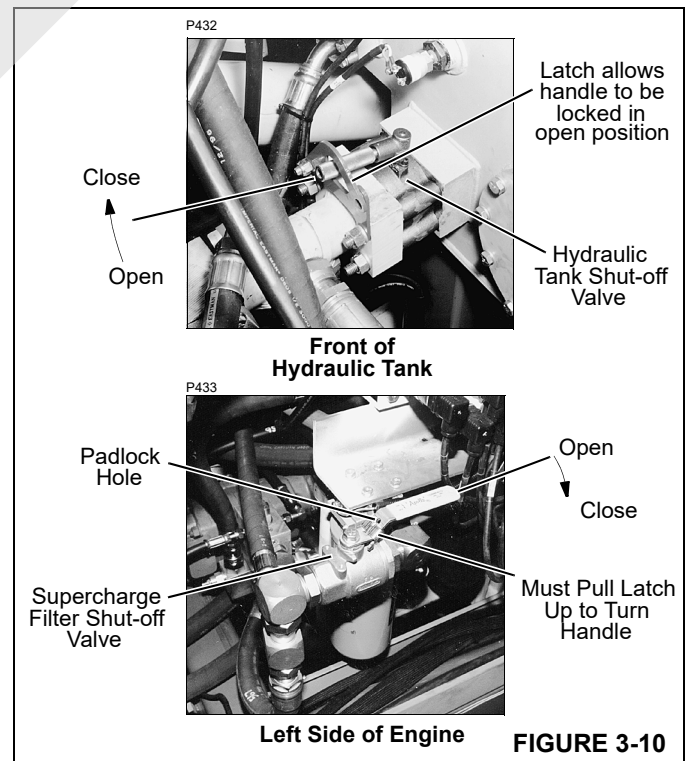

FIGURE 3-10
2. Open hydraulic shut-off valves. (Figure 3-10).